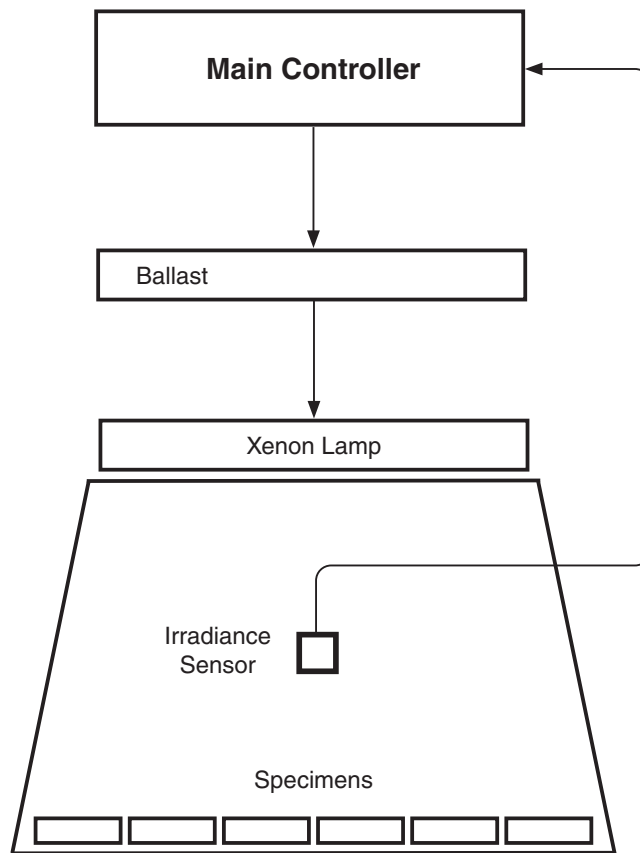

Figure 7.2: SOLAR EYE® feedback loop system.
- The Q-SUN Xe-1 irradiance control system includes the main controller, an irradiance sensor, ballast, and the lamp (Figure 7.2).